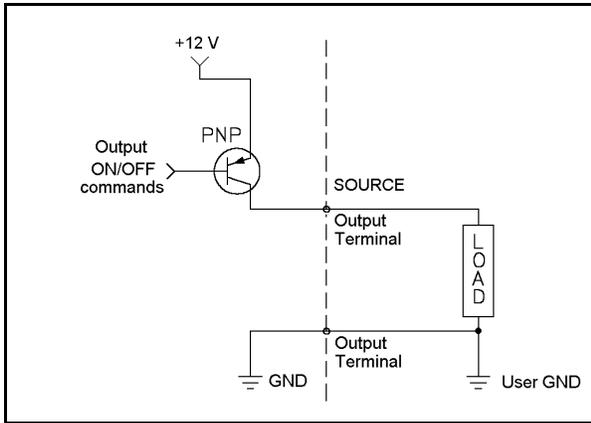

Figure 3-8: Open Collector Output: PNP Mode
- OFF is defined as 0 volts (refer to Figure 3-8)